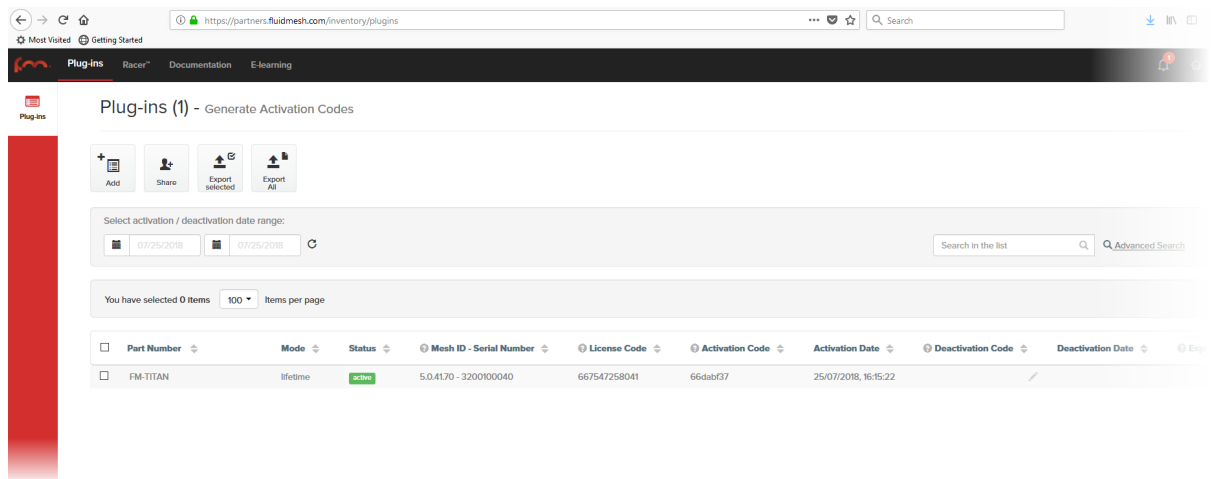

Figure 68. Partner Portal Plug-ins page (License code deactivation)
- The Plug-ins web page will be shown (Figure 68 \(page 150\)).